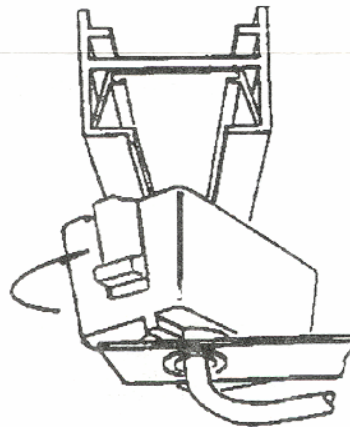

FIG. 2
2. ROTATE FITTING 90° CLOCKWISE UNTIL SNAPS AND LOCKS IN PLACE (FIG. 2 ET 3).